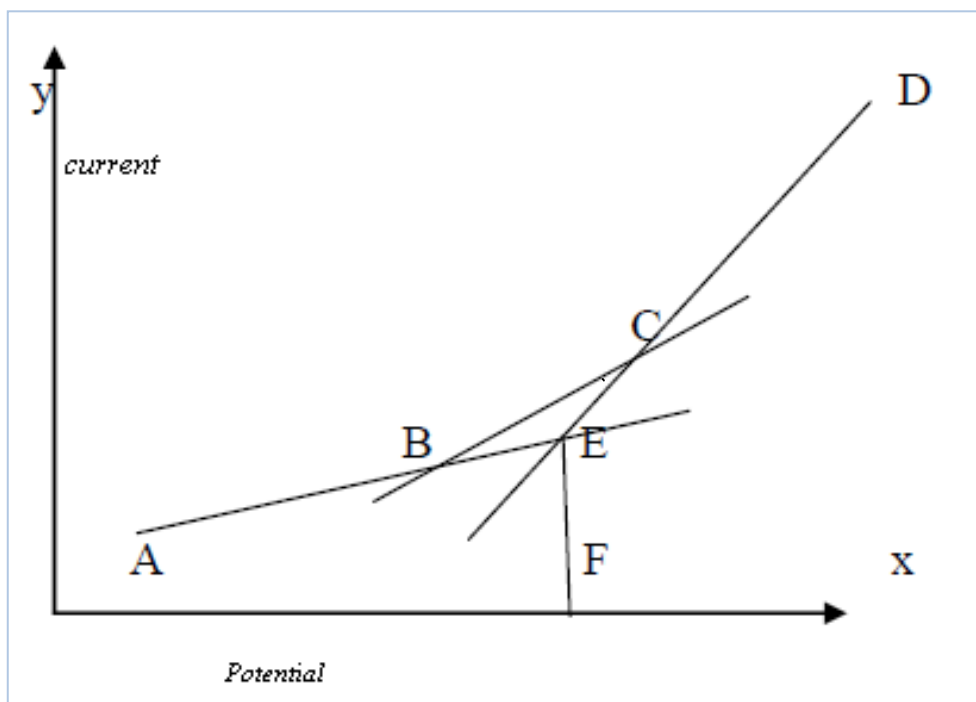

Figure 3: Variation of filament current with applied voltage.
If a graph is plotted between plate potential and plate current; the plate current at first increases slowly for a given increase in plate voltage and when the plate potential is equal to or greater than the ionization potential there is a greater increase in plate current for the small increase in plate potential. The change in slope is, however, not very abrupt but there is a short curved portion within which the change in plate current goes on becoming more and more rapid. To find the value of ionization potential the two straight portions AB and CD of the graph are produced to meet at a point E (Figure 3). If we draw a perpendicular EF on the X-axis, then OF represents the ionization potential as shown in figure 3.
4. Taking the plate voltage along the x-axis and plate current along the y-axis plot a graph between plate current and plate voltage as shown in Fig 3. Draw the straight line AB between the first few points and the straight line CD between the last few points and produce AB and DC to meet at E. Draw EF perpendicular to the X-axis, then point F on X-axis gives the value of the ionization potential of mercury.